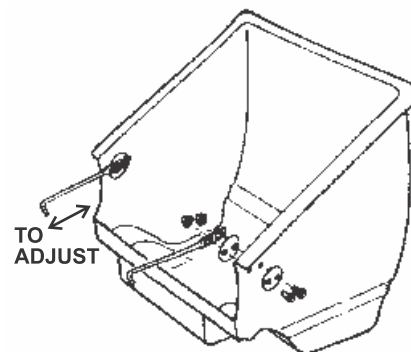

FIGURE 8: Adjust the grass catcher for proper clearance from the reel blades before tightening the catcher hook nuts.
- Refer to Figure 8. Loosen the rear nuts and bolts on the catcher hooks. Remove the front nut and bolt from each catcher hook, then rotate the catcher hooks into the correct position and fasten each hook with the two bolts and nuts. Do not fully tighten the nuts until the grass catcher is adjusted for proper clearance from the reel blades.